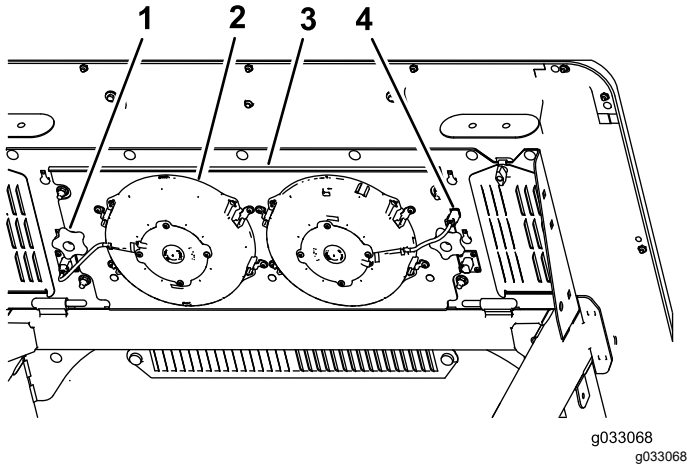

Figure 56
2. Tab (4)
3. Disconnect the plug and cord for the fans from the outlet (Figure 56).
4. Remove the 2 knobs that secure the fan-panel assembly and fans to the underside of the cab top (Figure 56) and remove the assembly.